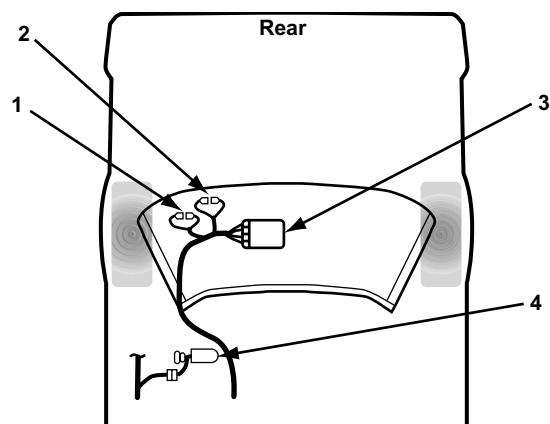

Figure 15-41 1987-91 XT models (connector in the trunk)
- “1987-91 XT models (connector in the trunk)” on page 204 (Figure 15-41)